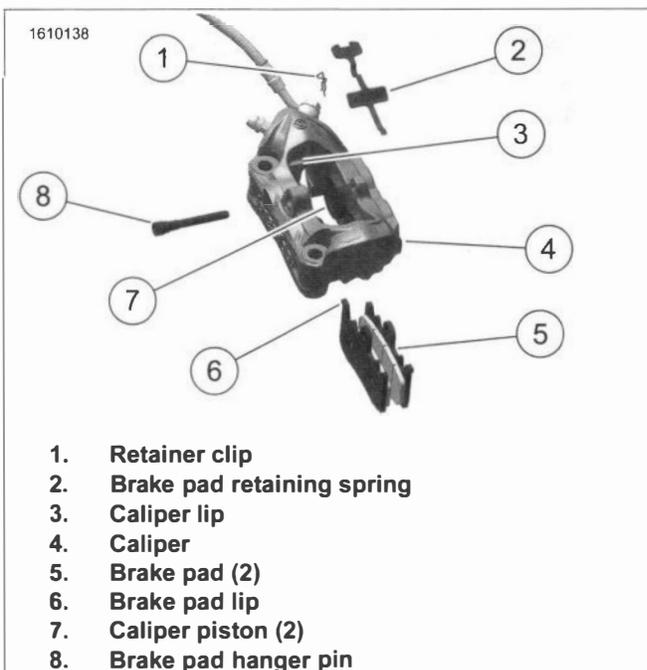

Figure 2-10. Front Brake Pads
7. See Figure 2-10. Using the old brake pad and a C-clamp, retract the pistons (7) fully into the caliper (4).
1. See Figure 2-10. Position **new** brake pads (5) inside caliper (4) resting brake pad lip (6) on caliper lip (3).
2. Insert **new** brake pad retaining spring (2) on brake pads and caliper.
3. Press down on retaining spring while sliding **new** brake pad hanging pin (8) through caliper holes. Tighten